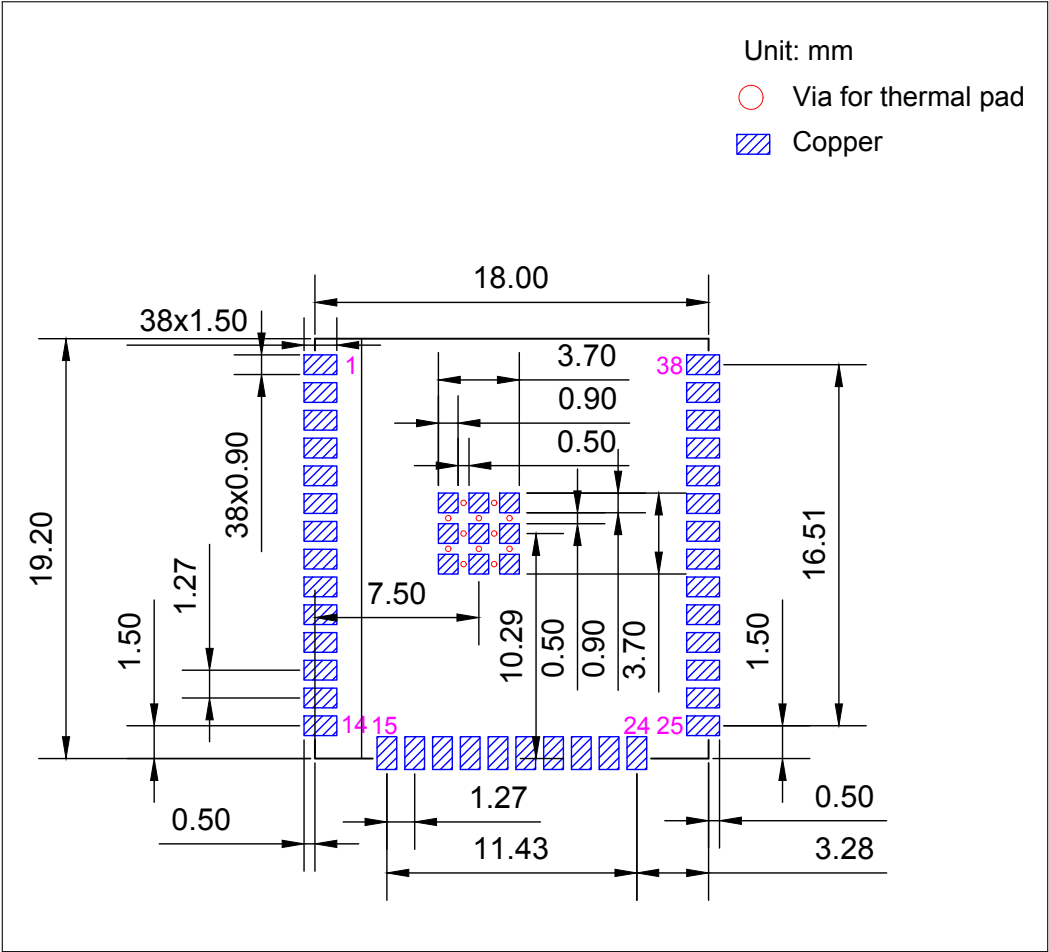

Figure 9: Recommended PCB Land Pattern of ESP32-WROOM-32U
- Figures for recommended PCB land patterns with all the dimensions needed for PCB design. See Figure 8 Recommended PCB Land Pattern of ESP32-WROOM-32D and Figure 9 Recommended PCB Land Pattern of ESP32-WROOM-32U.
- Source files of recommended PCB land patterns to measure dimensions not covered in Figure 8 and Figure 9. You can view the source files for ESP32-WROOM-32D and ESP32-WROOM-32U with Autodesk Viewer.